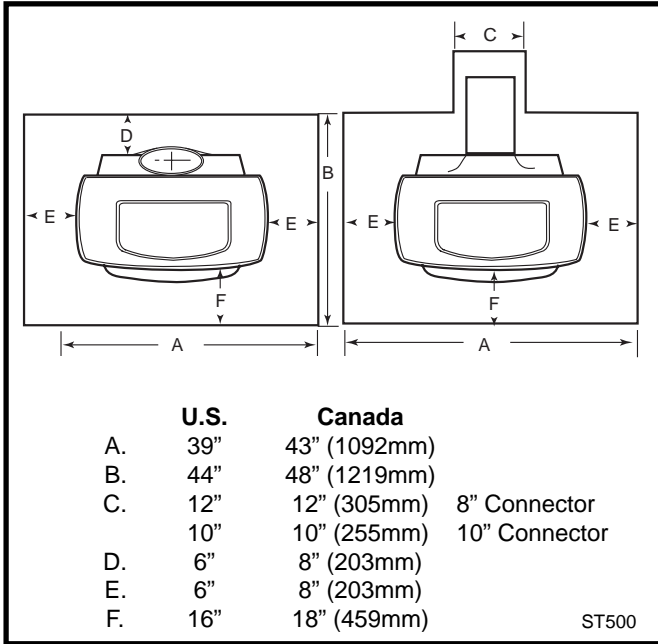

Fig. 12 Required floor protector dimensions for both top-and rear-exiting stove.
U. S. installations the floor protector is required under the stove and must extend at least 16" (not including the ash lip) from the front of the stove ("F", Fig. 12), and at least 6" from the sides and rear. ("D" and "E", Fig. 12) It must also extend under the chimney connector and 2" to either side. ("C", Fig. 12) For the 8" (203mm) connector, the protector must be a minimum of 12" (305mm) wide. For the 6" (152mm) connector, the protector must be 10" (254mm) wide. The protector must be centered under the connector.
In Canada: A noncombustible floor protector is required under the stove as well. The floor protector must extend 18" (457mm) to the front ("F", Fig. 12), and 8" (203mm) from the sides and rear. ("D" and "E", Fig. 12)
Floor protection also must extend under the chimney connector and 2" (50mm) to either side. ("C", Fig. 12) For the 8" (203mm) connector, the protector must be a minimum of 12" (305mm) wide. For the 6" (152mm) connector, it must be at least 10" (254mm) wide. The protector must be centered under the connector.